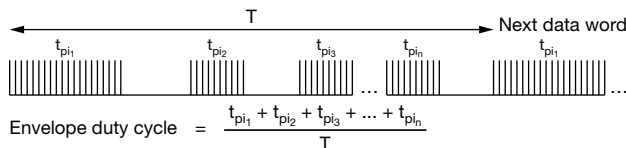

Fig. 1 - Definition of the Envelope Duty Cycle
- The parts table, which can be found on the first page of the IR-receiver datasheets lists the most popular IR remote control data formats and the IR receiver types suitable for receiving them. If a data format is not mentioned, then carrier frequency, burst length, and repetition time of the data signal should be cross checked against the receiver type. This can be accomplished by checking the maximum envelope duty cycle diagram in the datasheet. The envelope duty cycle is defined by the burst length divided by the repetition time. In more complex IR codes all the burst durations in a data word can be summed up and divided by the data word repetition time as illustrated in Fig. 1. Accepted signals must lie below the maximum envelope duty cycle curve. If there is uncertainty regarding the selection of the type, we recommend the general purpose TSOP13438 series or contact the technical support IRR@vishay.com.